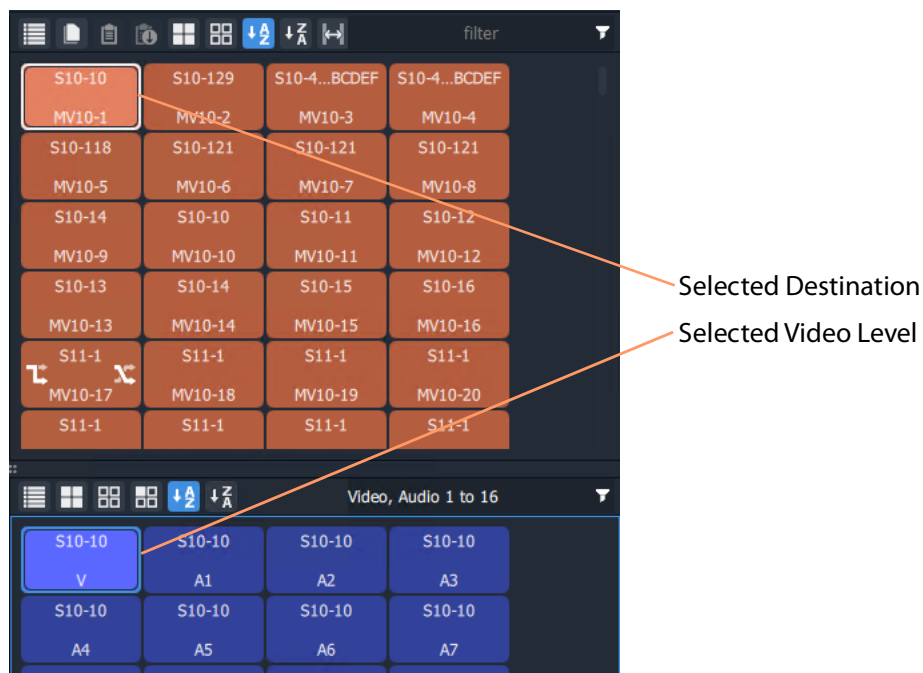

Fig. 11-34: Selected A Destination and a Level
- 2 Select a **Destination Level**. (See Figure 11-34.)